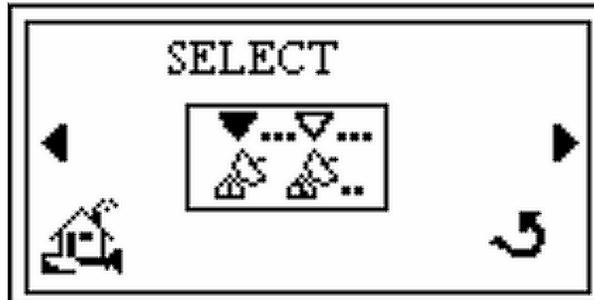

Figure 2-14 Select Screen
4. Press **Enter** and the *Select* screen appears (Figure 2-14).